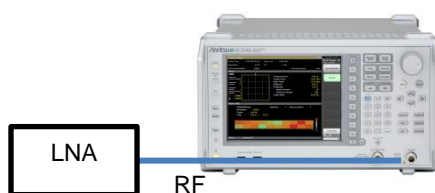

Fig. B-1 Noise Measurement Path
15. Set the noise measurement path in Fig. B-1.